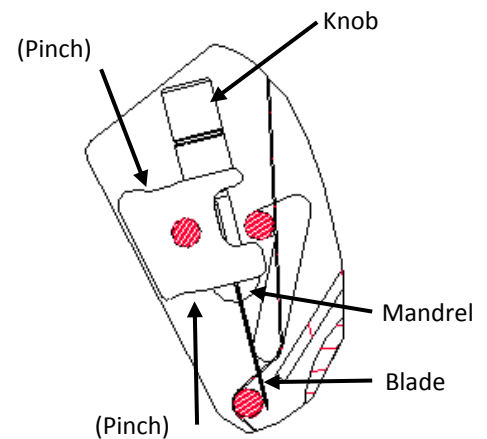

Figure 11
4. Cut the foil at the end of the dispensing motion. While keeping the foil taut pinch the white handle of cutter between your thumb and index finger and slide the cutter across to the opposite side of printer. See *Figure 11*.
2. Loosen the knob by turning it counter clockwise. See *Figure 11*.
4. Using needle nose pliers push a new blade back into the mandrel. Be certain that it is fully seated. The tip of the blade should not stick much beyond the lower dowel shown in *Figure 11*.